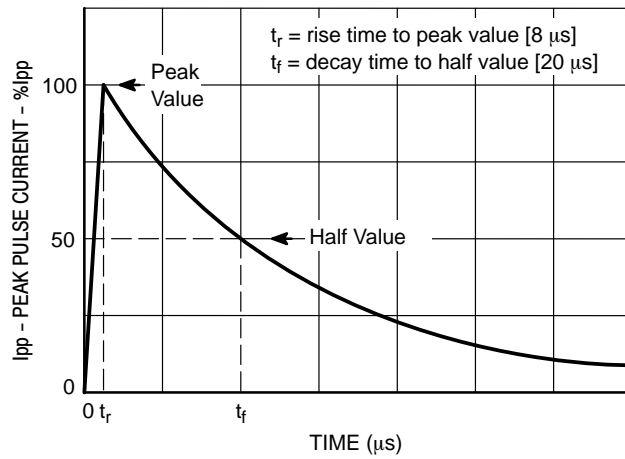

Figure 1. IEC61000-4-5 8/20 μ s Pulse Waveform
3. Surge current waveform per Figure 1.